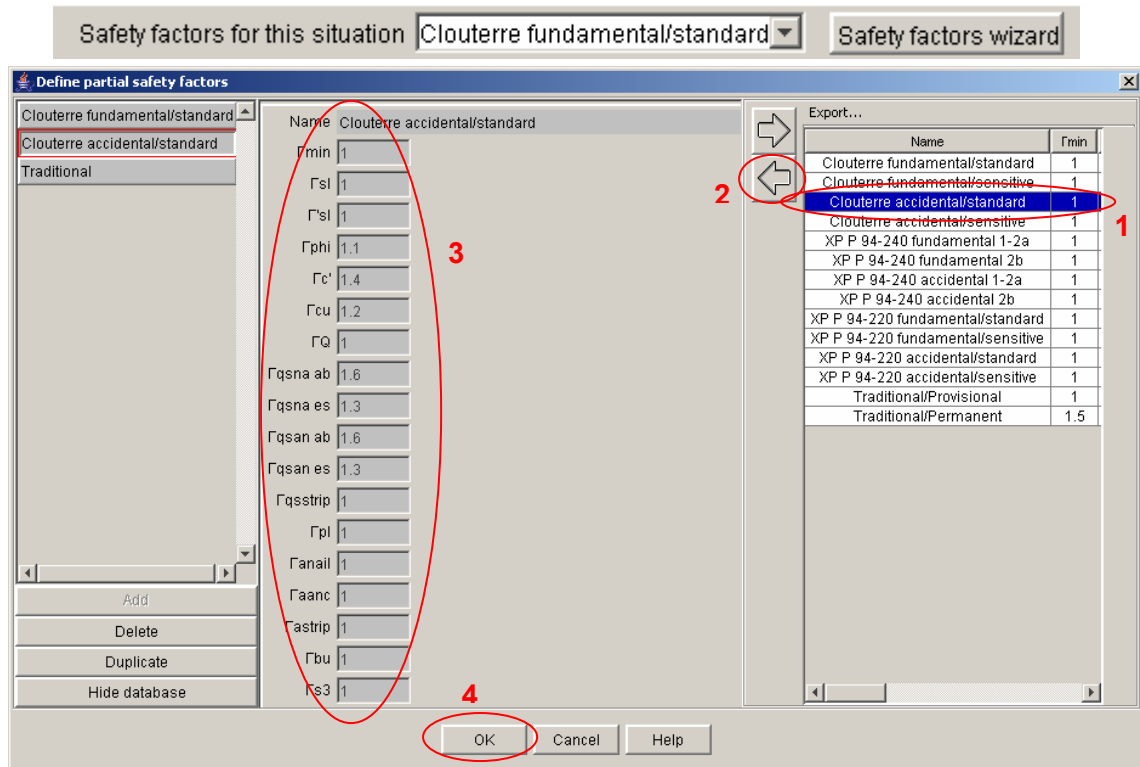

Figure 40: selection of a different set of partial safety factors
- Partial safety factors: Clouterre Accidental/Standard. To change the set of partial safety factors, click on the button [Safety factor wizard], then follow the steps indicated on Figure 40.